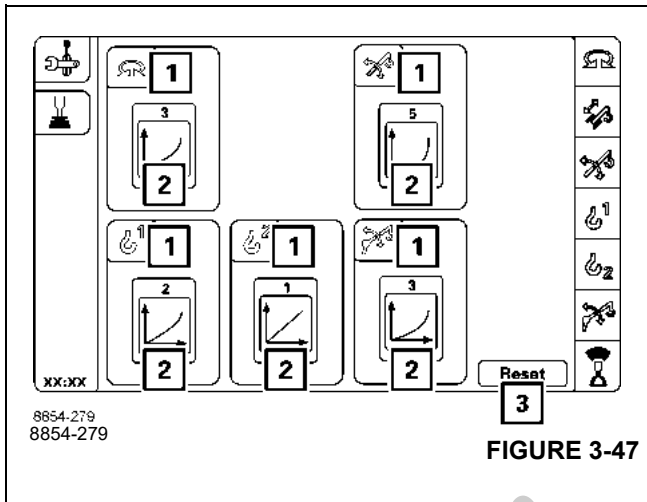

FIGURE 3-47
The symbols (2), (Figure 3-47) show the set characteristic curves of the crane functions (1), (Figure 3-47).
- Select and confirm symbol (3), (Figure 3-47) to reset all crane functions to characteristic curve 1.